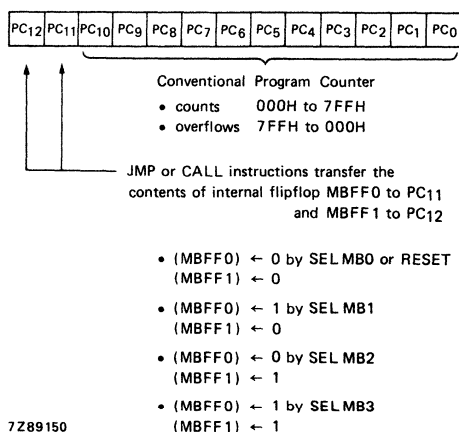

Fig. 19 Program counter.
**Program counter (see Fig. 19)**
A 13-bit program counter is used to facilitate 8 K bytes of ROM being addressed. The arrangement of the bits is shown in figure 19. During an interrupt subroutine PC11 and PC12 are forced to logic 0. All 13 bits are saved in the stack during CALL and interrupt routines.